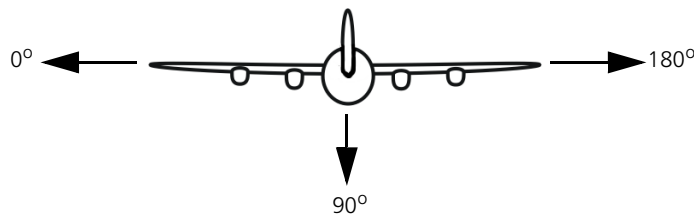

Figure 3-8. Strip SAR Orientation (rear view of plane)
8. Specify the orientation of the sensor. 0 degrees is out the left side of the entity; 90 degrees is straight down; 180 degrees is out the right side (Figure 3-8).